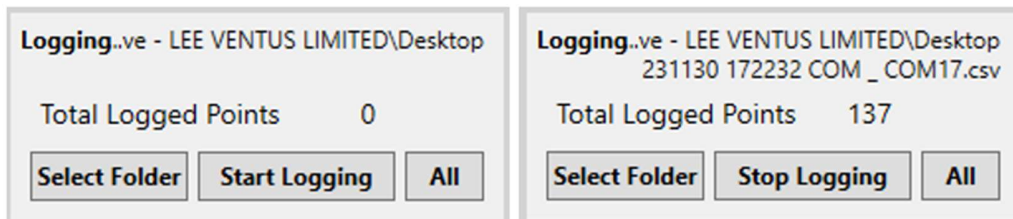

Figure 66 Data logging interface when target folder is selected (left). Data logging interface while data logging is active (right).
- Once the folder is selected the interface will indicate the new location as shown in Figure 66. When the logging is started the app will automatically create a .CSV log file in the target folder.
- Click the Start Logging button to initiate the logging. The interface shows the name of the created file and the number of logged points going up as shown in Figure 66. Once sufficient data is obtained click the Stop Logging data.